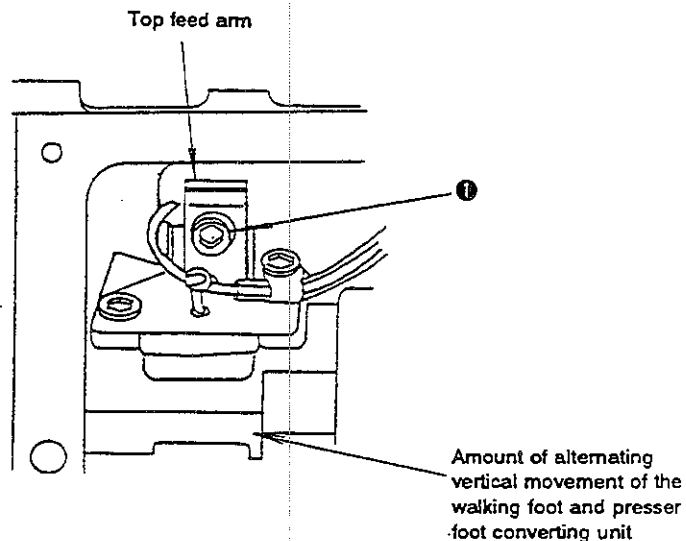

Fig. 2
<ol style="list-style-type: none"> 1. Set the stitch dial to "9" on the scale. 2. Set the dial for setting the amount of alternating vertical movement of the walking foot and presser foot to "1" on the scale. 3. Remove the rubber plug from the top cover. 4. Loosen clamping screw ❶ in the top feed arm through the hole in the top cover from which the rubber plug has been removed. (Fig. 2 illustrates the top feed arm after removing the top cover.) 5. Align the graduation "L" on the handwheel with the handwheel pointer. (Fig. 1) 6. In the state described in step 5, make the walking foot rest on the feed dog and make the presser foot come in contact with the throat plate. 7. Tighten clamping screw ❶ in the top feed arm. (Fig. 2) 	<ul style="list-style-type: none"> ☆ Improper stitch length may result when making the machine run at high/low speed. ☆ The lifting amount of the presser foot or the walking foot will be decreased. As a result, the material may not be fed smoothly. <p>5' If the graduations on the handwheel shift in direction ❸ from the handwheel pointer, the lifting amount of the walking foot will decrease and the lifting amount of the presser foot will increase. If the graduations on the handwheel shift in direction ❹, the former will increase and the latter will decrease.</p>
(6) Adjustment of the feed mechanism